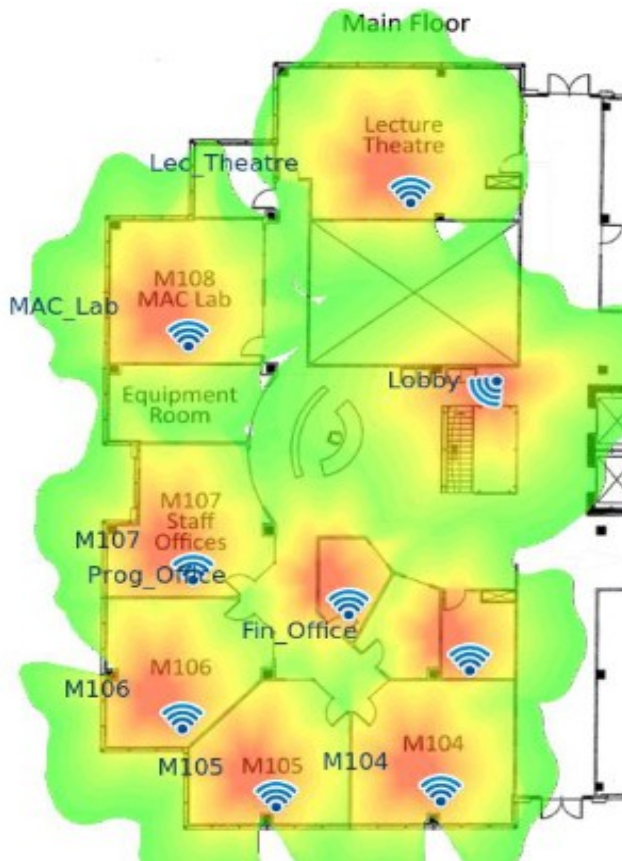

Figure 7
3.2.2 Access Point Configuration: All access points should be configured so as not to broadcast VLAN 10's network SSID "Management". However, it is advisable for all access points to broadcast VLAN 20's network SSID "Staff" to allow easier access for users trying to connect. All access points should enable automatic channel selection and be set to transmit in both 2.4 Ghz and 5 Ghz bands. Each access point should be configured to transmit at a power of 12dBm for the 2.4Ghz band and 23dBm for the 5Ghz band as shown in Table 2. Transmitting at these proposed levels will ensure all devices on premises will receive no lower than a -50dBm signal. The heat maps in item 3.2.2 illustrate signal strength at a -50dBm threshold. (Fig. 7 & 8)